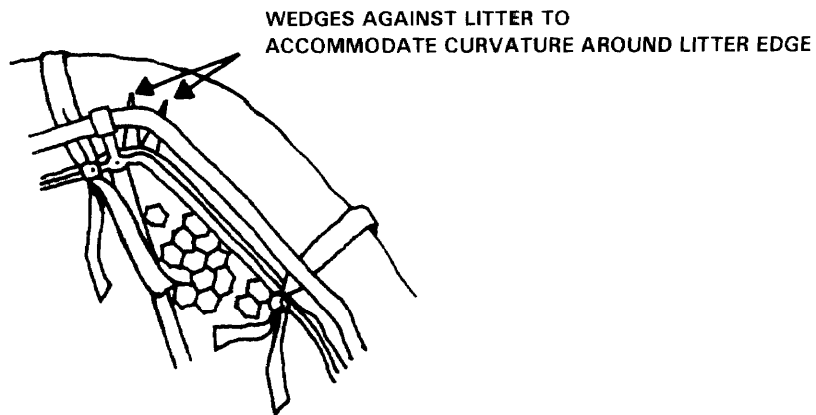

Figure I-12. Positioning flotation collar.
b. Installation. Position the 108 inch flotation collar around the outside of the head of the Stokes litter (Figure I-12). Align the ties to the inside of the center horizontal brace and secure with